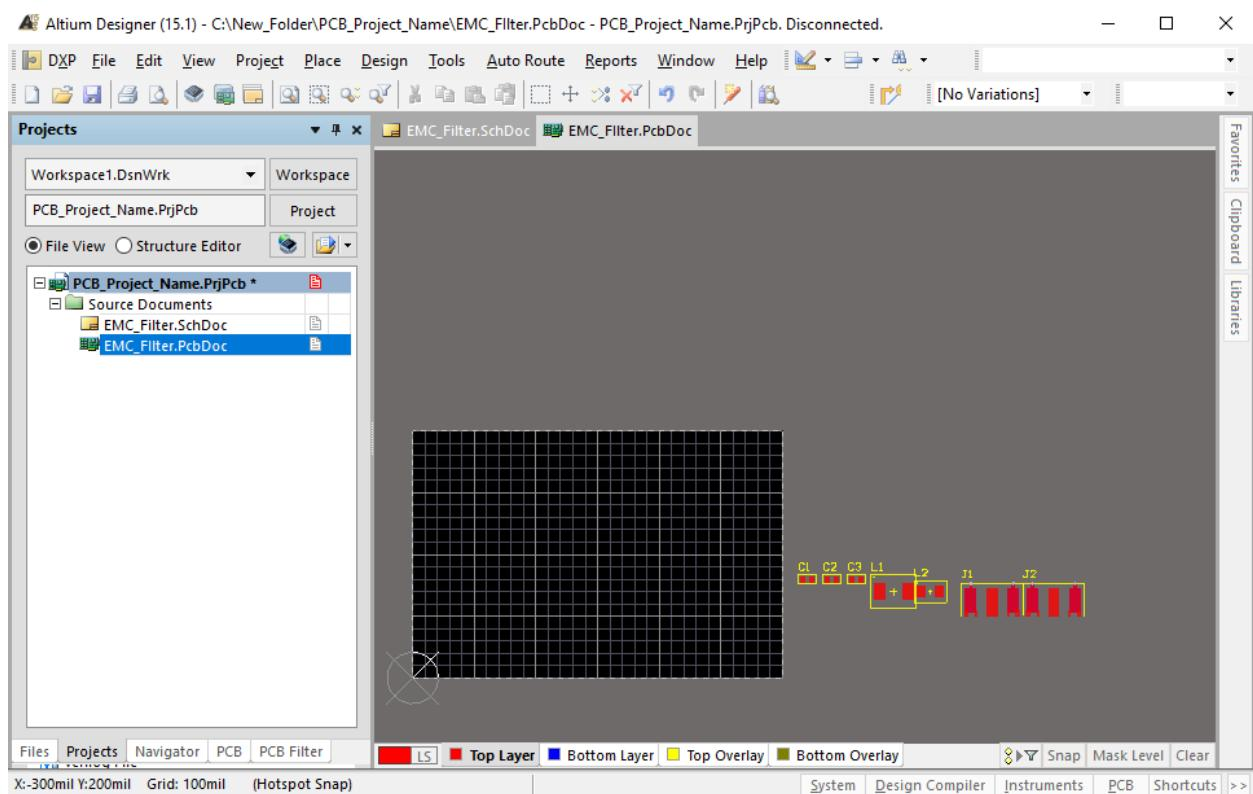

Figure 81: Altium PCB Imported wires and nets.
49. After you enabled the layers you are ready to place the components, as shown in Figure 81 proceed with general design process.